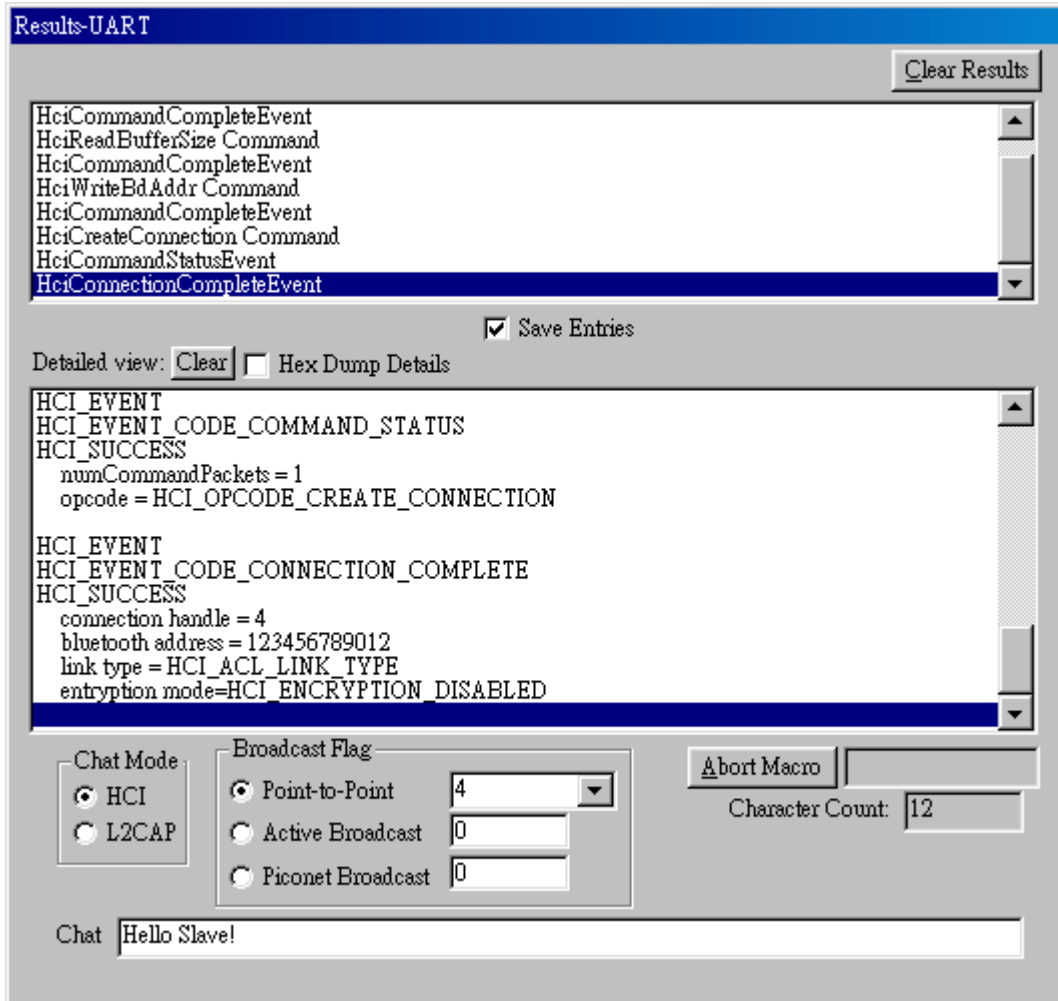

Figure 23: Type in "Hello Slave!" in Master Device Side
- On the Master computer, input **"Hello Slave!"** into **"Chat"** dialogue box and click **"Enter"** button on the keyboard. (as Figure 23).